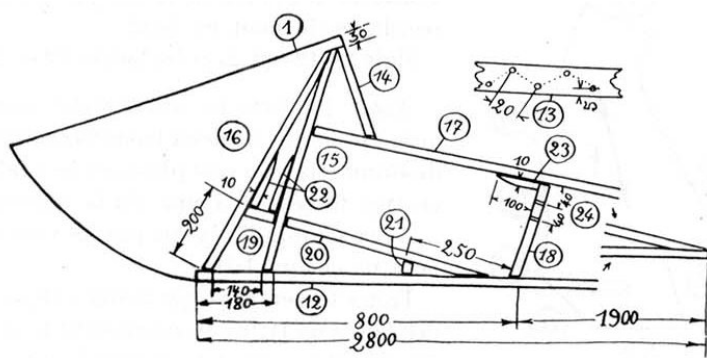

Figure 3.3: Layout of longerons and members, fuselage side
A longeron  $20 \times 20, 2700^1$  mm (2m 70cm) is glued and nailed as at ⑫, fig. 3.3. It extends beyond the end of the side by 1900 mm.
1Both here and in the figure M. Mignet mistakes himself and writes 2800; the measurement in fig. 3.3 is incorrect.
To glue, spread the glue on the first 800mm of the longeron, so there are no bare spots. A nail at each end will steady it while you nail in a zigzag pattern every 20mm or so, as seen at (13) in fig. 3.3. After nailing, the glue will be squeezed out along the entire joint. Plane it away when dry.